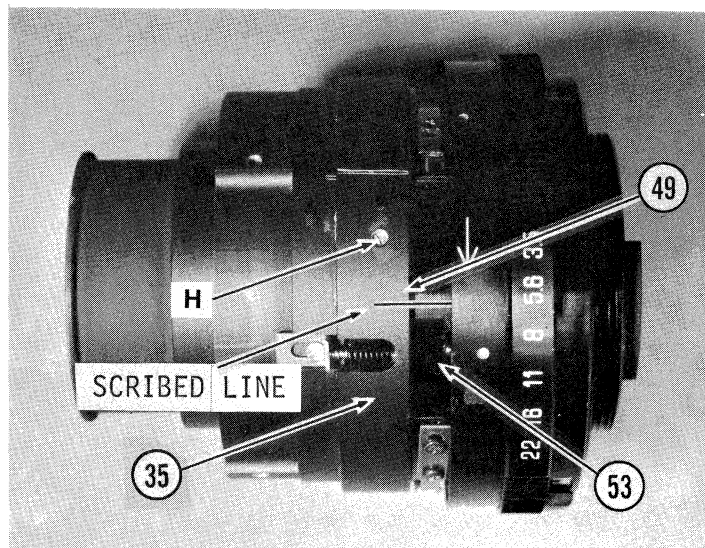

Fig. 23
- 3.1.1 Remove Latch Ring (31) and lay aside. (Fig. 23)
- 3.1.2 Scribe a reference line across the juncture of Prime Lens Barrel (35) and Lens Mount Ring (53). (Fig. 23)
- 3.1.3 Remove Three setscrews (H) from the Prime Lens Barrel, then separate the Prime Lens Assembly from the Lens Mount Assembly. (Fig. 23)
- 3.1.4 There are usually one or more Front Focus Spacers (49) installed between the Prime Lens and Lens Mount Assembly. These spacers (supplied in thicknesses of 0.1, 0.15, 0.2, 0.4 and 0.5mm) are used for focus adjustment as explained in Section 10. Remove Spacers and lay aside. (Fig. 23)
- 4.2.12 Assemble Lens Mount Assembly to Prime Lens Barrel, assuring that long pin on Diaphragm Actuating Lever passes through fork in Diaphragm Lever. Rotate either half of assembly to realign scribed lines. Tighten one setscrew (H), leaving two others loose. (Fig. 23)
- 4.2.16.6 Tighten three setscrews (H), locking them in place with thread sealant. (Fig. 23)